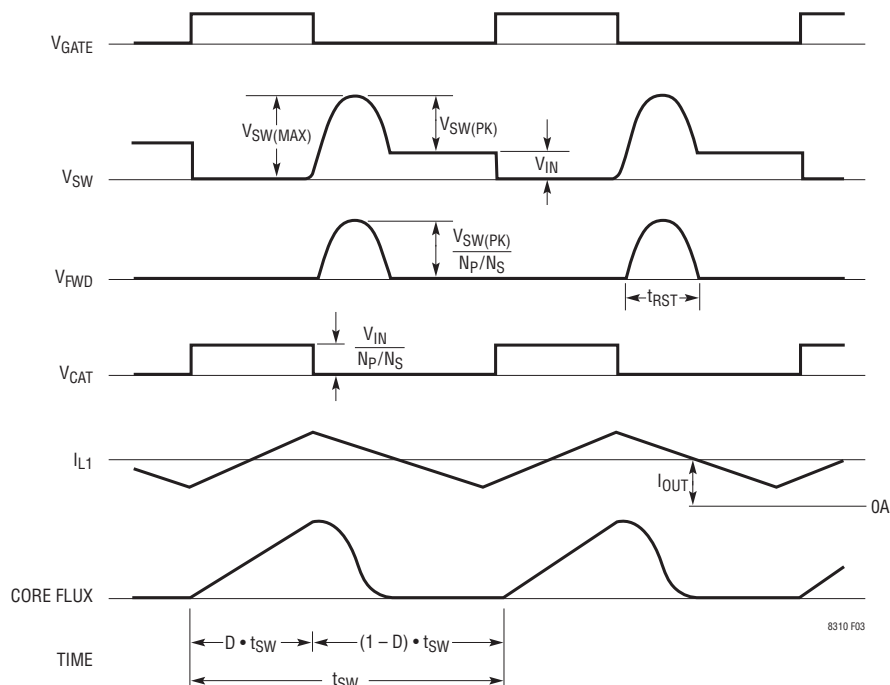

Figure 2. Typical Signals in a Forward Converter
Refer to Figure 2 in the following discussion of signals in a forward converter. When the GATE signal goes high, the primary winding sees the full input voltage, and the secondary winding voltage has a value scaled by the turns ratio,  $V_{IN}/(N_P/N_S)$ . During this period the forward diode
To keep the transformer from saturating, its core flux must be reset periodically. The LT8310 relies on resonant reset each cycle uses a capacitor between the switch node, SW, and ground (see Figure 2). When the main switch turns off at the end of the duty cycle,  $V_{SW}$  ramps up to and beyond  $V_{IN}$ , which cuts off secondary-side current and forces primary-side current to charge the switching node. Node SW resonates for half a sine wave until the transformer voltage and current are both zero, which leaves  $V_{SW} = V_{IN}$  until the next switch activation. Note that (1) the maximum voltage on the primary switch exceeds the input voltage, and may be well above it, and (2) ideally, the flux reset completes within the switch off-time before the next cycle begins. The LT8310 controller imposes an absolute maximum duty cycle that provides a predictable minimum off-time (at a given switching frequency) in which to reset the core.